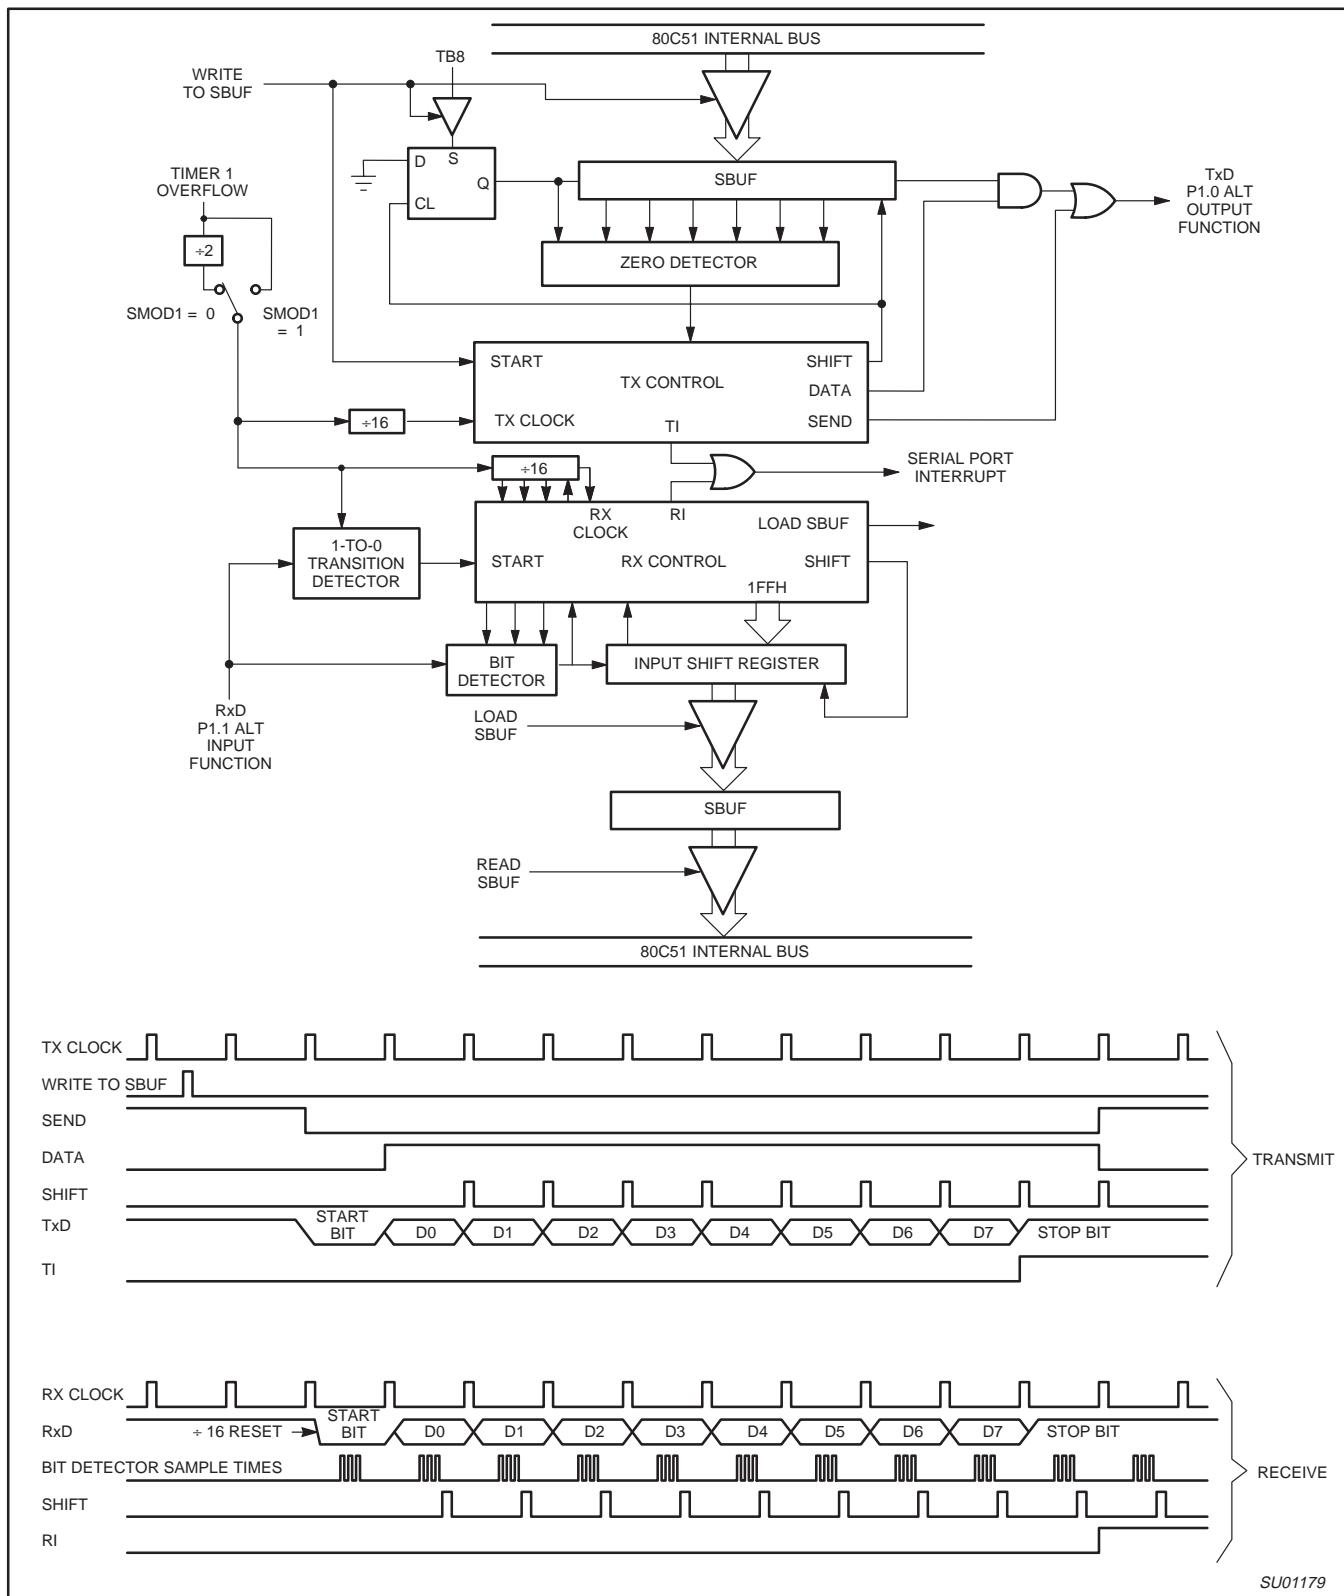

Figure 33. Serial Port Mode 1
Ten bits are transmitted (through TxD), or received (through RxD): a start bit (0), 8 data bits (LSB first), and a stop bit (1). On receive, the stop bit goes into RB8 in SCON. In the P87LPC760 the baud rate is determined by the Timer 1 overflow rate. Figure 33 shows a simplified functional diagram of the serial port in Mode 1, and associated timings for transmit/receive.